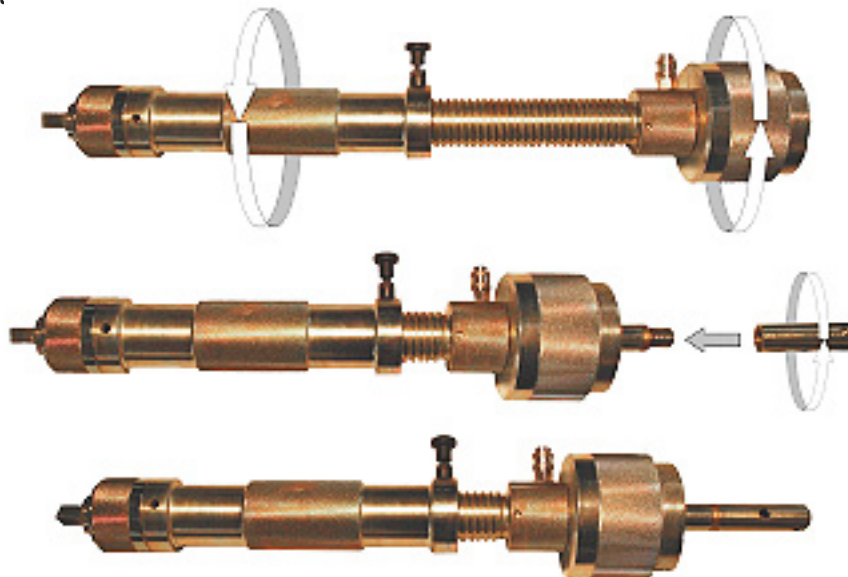

fig. 2
- 2 - Screw the machine until the spindle comes out and install the hexagonal mandrel (if you are using hole saw cutters with hexagonal shank) or the mandrel for AV hole saw cutters without hexagonal shank (fig. 2). Lock it by using the lever to assemble/disassemble and the ratchet brace at the same time